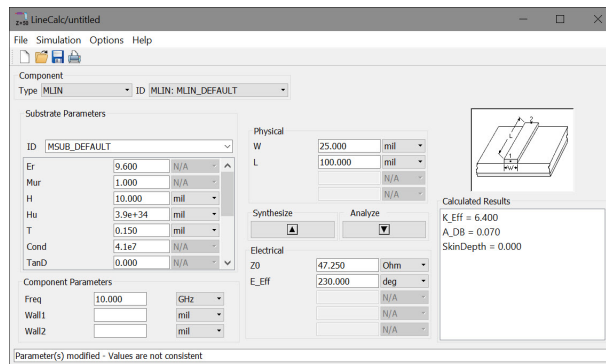

Figure 2: Window for LineCalc
- As we know that the characteristic impedance ( $Z_0$ ) of a transmission line depends on its geometry factor, we need to obtain the correct geometry parameters of our trace line. In this case, we need to match  $Z_0$  to 50 Ohm as the measurement system in the lab takes 50 Ohm as the reference. To do so, we perform **LineCalc** by selecting “Tools -> LineCalc -> Start LineCalc” and Figure 2 should pop up. **LineCalc** is an integrated tool in ADS that helps us to calculate the geometry of the line we desire. More info about how the geometry parameters effect  $Z_0$  can be found in this website: <https://www.microwaves101.com/encyclopedias/microstrip>.